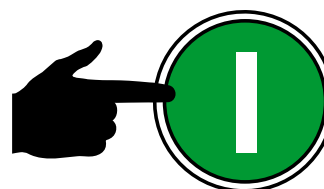

Figure 45. Start Button (Manual Mode)
- Press the **START** button (Figure 45) and verify that the engine starts.